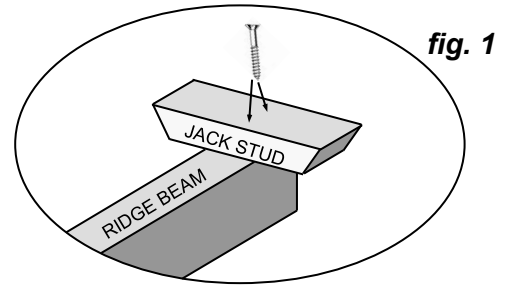

fig. 1
- Place the Ridge Beam on a level surface and use 2 x 75mm screws to secure the Jack Studs to the underside of the Ridge Beam, one at each end (**fig. 1**).
- Ensure the Front and Back Top Plates are straight. Nail the roof sheets to the front & back Top Plates, using 1 x nail per pan (**fig.1**).